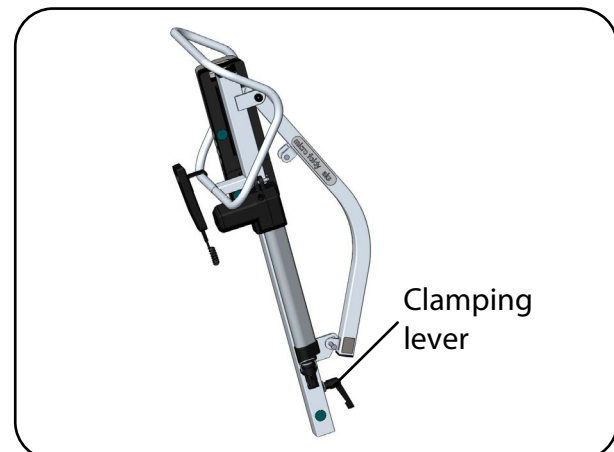

Fig.13.2.03 – Stand mast
1. Brake the two rear castors on the operator side by activating the foot lever (Fig. 13.2.03) (see chapter on Operation, section **Castors**).
6. Screw on the clamping lever with the washer pushed on back into the stand mast (Fig. 13.2.03).